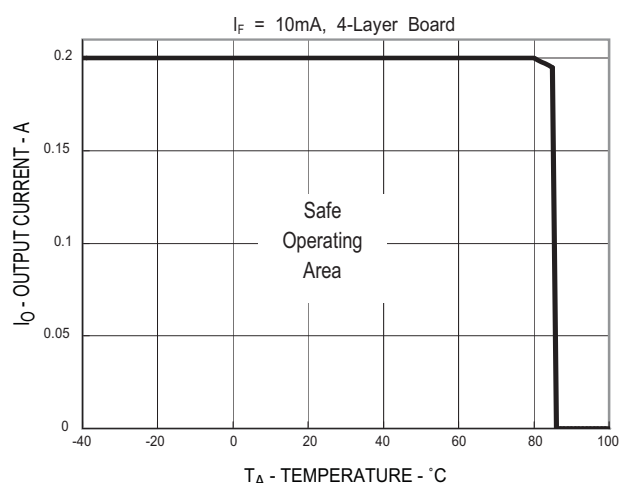

Figure 1. Maximum Output Current Rating vs Ambient Temperature (ASSR-1218-003E)
1. For derating, refer to Figure 1, 2, 3 and 4.
Figure 1, 2, 3 and 4 specify the maximum average output current allowable for a given ambient temperature. The maximum allowable output current and power dissipation are related by the expression $R_{ss} = P_o(max) / (I_o(max))^2$ from which R_{ss} can be calculated. Staying within the safe area assures that the steady state MOS-FET junction temperature remains less than 125 °C.